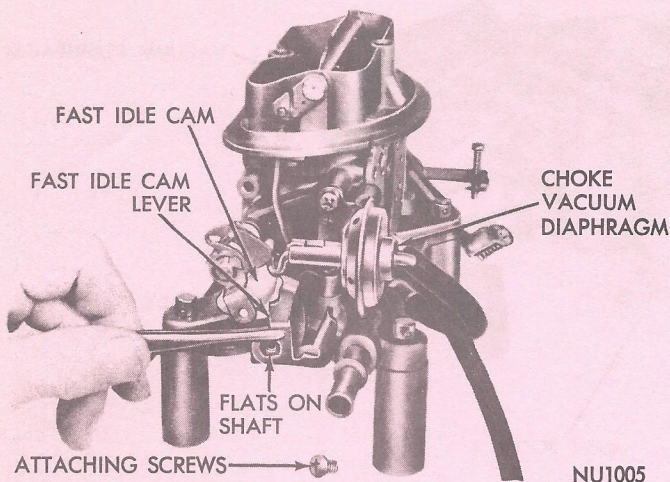
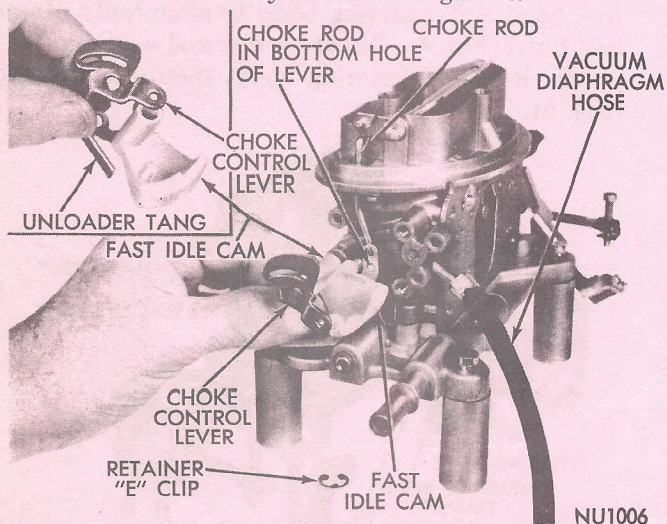

Fig. 6—Removing or Installing Fast Idle Cam Lever
Fig. 7—Removing or Installing Choke Control Lever and Fast Idle Cam
(4) Remove screw and washer that retains choke unloader lever to throttle shaft. Slide lever off flats on end of shaft (Fig. 6).
(5) Disconnect choke diaphragm hose from throttle body fitting. Remove choke diaphragm attaching screws, then remove choke diaphragm after disengaging link from fast idle cam lever.
(6) Remove "E" clip that retains fast idle cam lever and cam. Slide lever and cam off stub shaft, and at the same time, disengage choke rod from bottom hole of cam lever (Fig. 7). (Note position of fast idle cam in cam lever.)